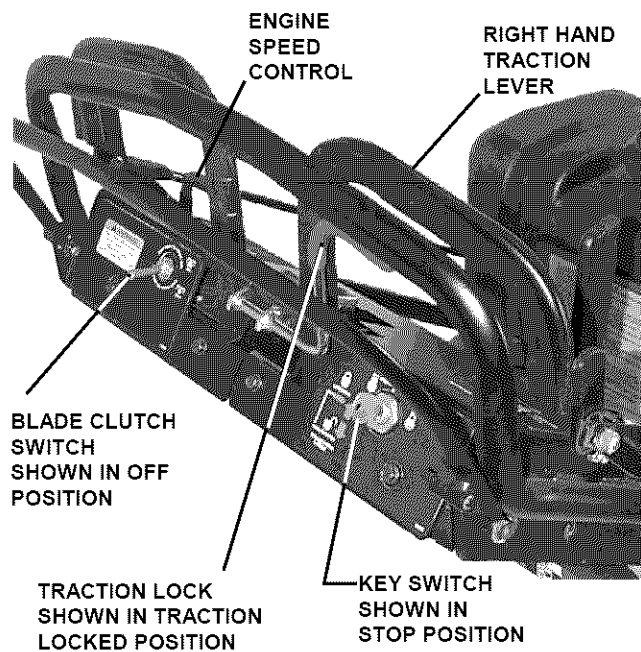

FIGURE 3.1
1. To **STOP** forward or reverse motion, firmly squeeze both Traction Levers towards the handle and hold. Using your right thumb, push Traction Lock forward to the "Locked" position and hold. See Figure 3.1.
5. Move Blade Clutch Switch down to the **OFF** position. See Figure 3.1.
6. Move Engine Speed Control Lever to **SLOW** (turtle) position. See Figure 3.1.
7. **STOP ENGINE** by turning Key Switch to "Stop" position. Remove key. See Figure 3.1.
4. Move Blade Clutch Switch down to the **OFF** position. See Figure 3.1.